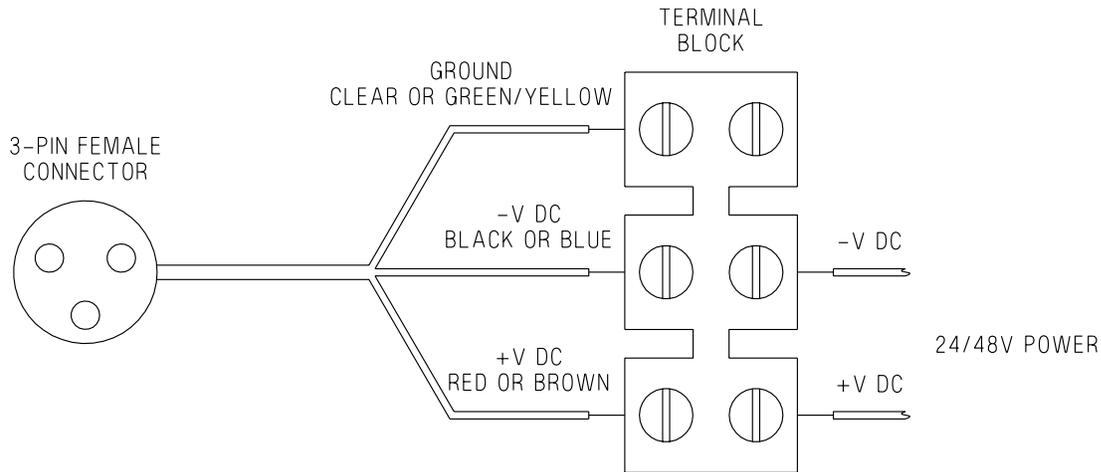

Figure D-5: PAD Power Cable Connection
11. Connect appropriate power to the PAD power cable as shown in Figure D-5.